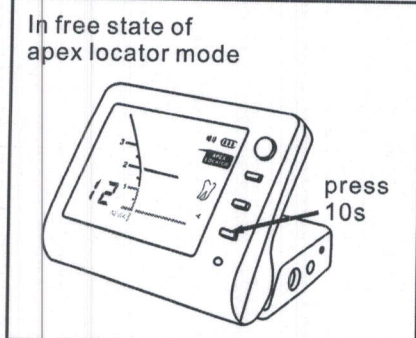

Fig.26
- In free state of apex locator mode, press the set button about 10s, LCD display in Fig.26, means the instrument entered the test state.